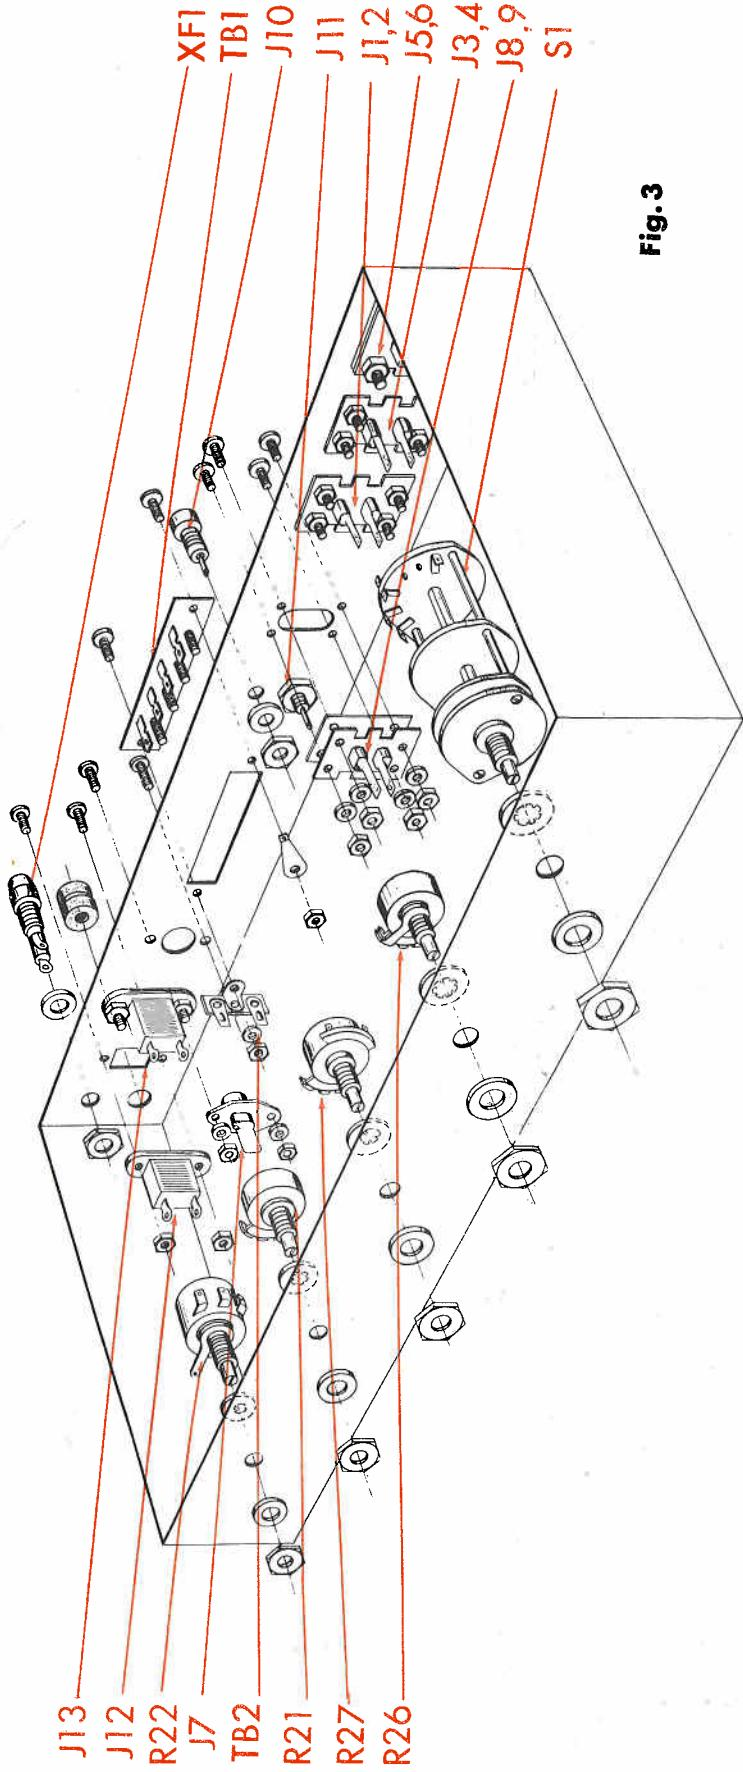

Fig. 3
1. (✓) Fig. 3. Mount the 500KΩ pot with switch, R22; the 1MΩ pot, R21; the 500KΩ pot with printed circuit plate PC2, R27; and the 100KΩ pot, R26. Mount a 3/8 hex nut on the bushing first. (This nut to be adjusted for proper mounting. Next, follow with a pot ground lug on R26 and R22. Complete assembly as shown in diagram with a 3/8 lock washer, 3/8 flat washer and 3/8 hex nut for each unit.
2. (✓) Fig. 3. Mount the fuse holder through the bottom of the two holes at the rear of the chassis, opposite the pot with the switch. Use the rubber washer and the nut provided. Do not tighten nut too much or holder will crack.
3. (✓) Fig. 3. Force a 3/8" rubber grommet through the hole above the fuse holder.
4. (✓) Fig. 3. Mount the two convenience outlets, J12 and J13 as shown. Use two #6-32 X 1/4 screws and two #6 hex nuts and two #6 lockwashers.
5. (✓) Fig. 3. Mount the single jack, J7, as shown. Use two #6-32 X 1/4 screws, two #6 lockwashers and two #6 hex nuts.
6. (✓) Fig. 3. Mount the terminal board, TBI, as shown. Use two #6-32 screws, a 3/8" flat washer and a 3/8" hex nut.
7. (✓) Fig. 3. Mount the two pin jacks (METER) J10, J11, with the hardware supplied on same. Remove the nut and fibre washer from the threaded portion of the jack. Pass same through hole provided. Attach the fiber washer and hex nut on the inside of the chassis. The small shoulder on the fibre washer should seat itself into the mounting hole. If the assembly is properly made the lug on the jack will be insulated from the chassis.
8. (✓) Fig. 3. Mount the two dual input jacks, J8-9 and J5-6 as shown. Use four #6-32 screws, four #6 lockwashers and 4 #6 hex nuts. Use an insulating bakelite between the dual jack and the chassis.
9. (✓) Fig. 3. Mount the remaining two dual input jacks, J1-2 and J3-4 as shown. Use four #6-32 screws, four #6 lockwashers and four #6 hex nuts. Do not use any insulating bakelite.
10. (✓) Fig. 3. Mount the selector switch, S1, as shown. Use a 3/8" lock-washer, a 3/8" flat washer and a 3/8" hex nut.
(✓) Fig. 3. Connect a 3/4" piece of bare wire from C24C (S) to C24D (C).